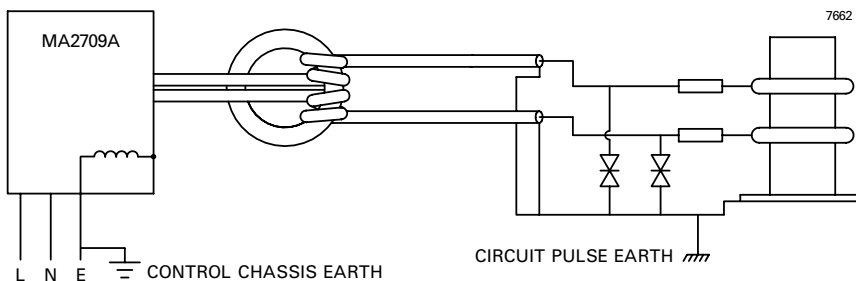

Fig. 1. MA2709A remote from the thyatron discharge circuit
- Earthing of the MA2709A is via the coaxial SHV BNC outer braids. The outer terminal of the trigger input BNC socket is also connected to the box and it may be necessary to use a ferrite core to minimise earth currents flowing along the input coaxial cable. See Figs. 1 and 2 for practical earthing considerations when fitting the MA2709A into a circuit.
It is important to ensure that good electrical practice is followed for earthing the MA2709A so that it is protected from unnecessary earth currents and any resulting voltage spikes. The filtered mains input socket connects the mains earth to the MA2709A metal case via a 400 μ H inductor. Ferrite beads or cores or strip-wound cores can be used to provide effective pulse isolation as indicated in Figs. 1 and 2.